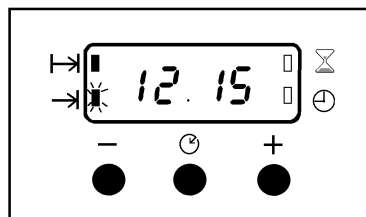

Fig.8.
- v) To set the 'End Time'. Press the Selector Control button until the 'End Time' indicator neon () flashes. Press the increase control (+) until the required stop time is displayed, e.g. 12.15 p.m. as Fig. 8. If necessary press the decrease control (-) until the correct time interval is achieved.